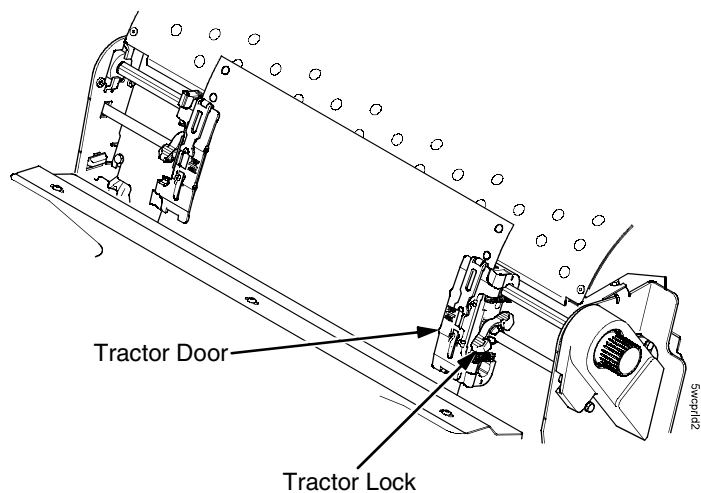

Figure 41. The Right Tractor
7. Load the paper onto the right tractor and close the right tractor door. Slide the right tractor horizontally to remove any paper slack, then lock it in place. See Figure 41.